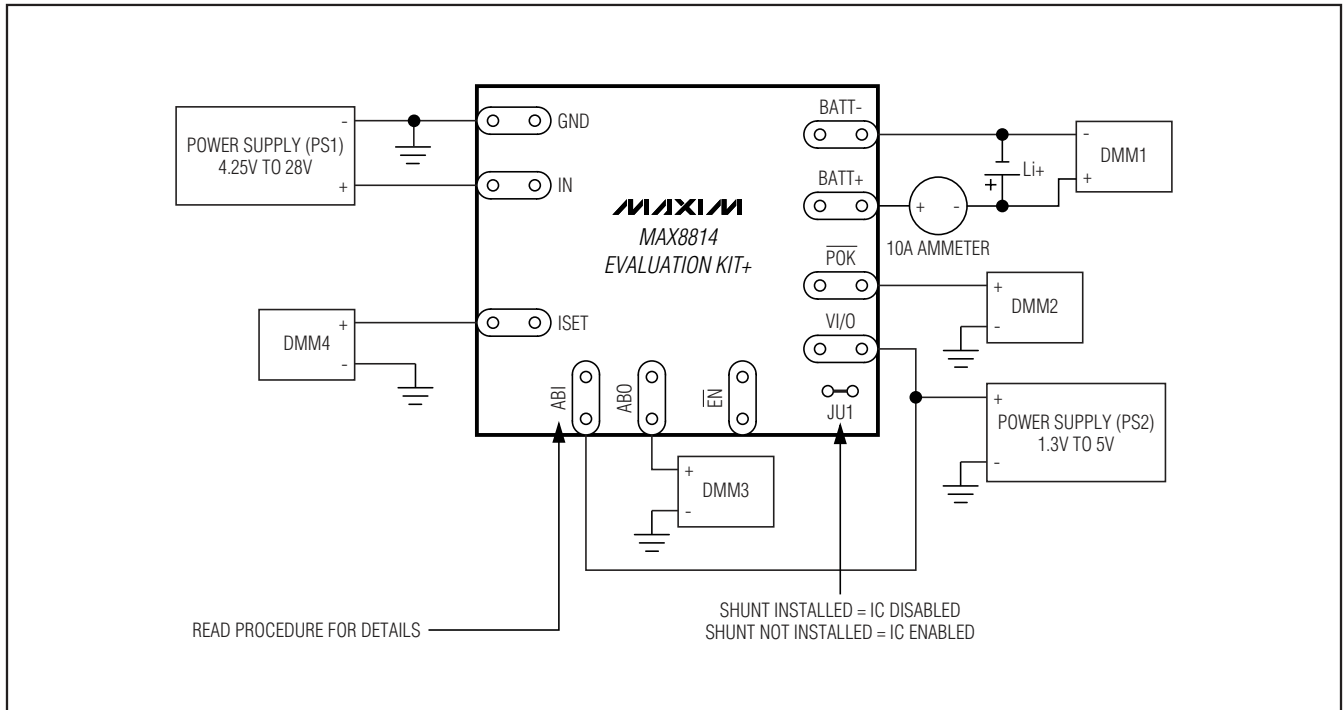

Figure 1. Test Procedure Setup for MAX8814 EV Kit
The MAX8814 EV kit is a fully assembled and tested surface-mount PCB. Follow the steps below and see Figure 1 to set up and verify board operation. **Caution: Do not turn on power supplies until all connections are made.**
- 6) Observe correct Li+ cell polarity. Connect a single-cell Li+ cell and 10A ammeter, as shown in Figure 1. The positive lead of the ammeter must connect to BATT+ and the negative lead to the positive terminal of the Li+ battery.
The MAX8814 charger uses voltage, current, and thermal-control loops to charge a single Li+ cell and protect the battery (Figure 1). When an Li+ battery with a cell voltage below 2.5V is inserted, the MAX8814 charger enters the prequalification stage where it precharges that cell with 10% of the user-programmed fast-charge current. When battery voltage reaches 2.5V, the charger soft-starts as it enters the fast-charge stage. In the MAX8814, the fast-charge current level is programmed through a resistor from ISET to GND. As the battery voltage approaches 4.2V, the charging current is reduced. Once the battery voltage reaches 4.2V, the IC then enters a constant voltage regulation mode to maintain the battery at full charge.
The MAX8814 contains an autobooting assistant circuit that generates an enable signal for system booting (ABO). The booting assistant functions as an internal "OR" gate (refer to Figure 1 in the MAX8814 IC data sheet for details). The first input is dependent on the state of the internal \overline{POK} signal and the second input is an external signal applied to ABI.